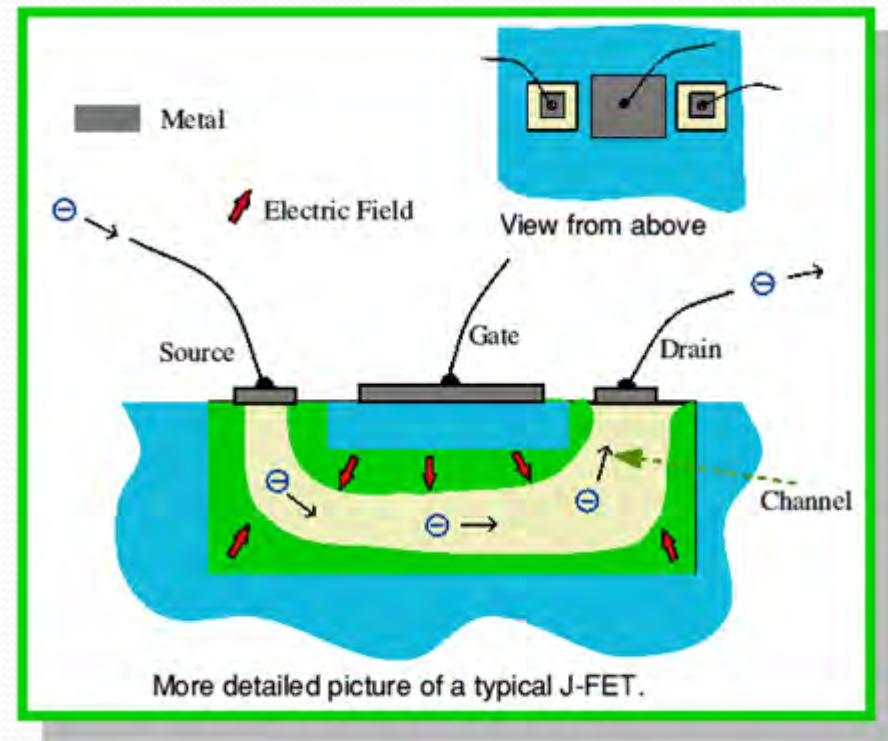

Abb. 15
- Abb. 15: [http://www.st-andrews.ac.uk/~www\\_pa/Scots\\_Guide/info/comp/active/jfet/jfet2.gif](http://www.st-andrews.ac.uk/~www_pa/Scots_Guide/info/comp/active/jfet/jfet2.gif)